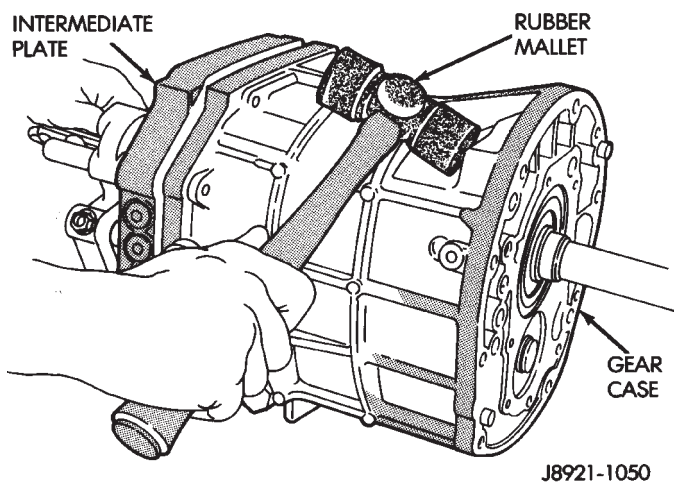

Fig. 20 Loosening Gear Case
(5) Loosen gear case by tapping it away from intermediate plate with rubber mallet (Fig. 20).